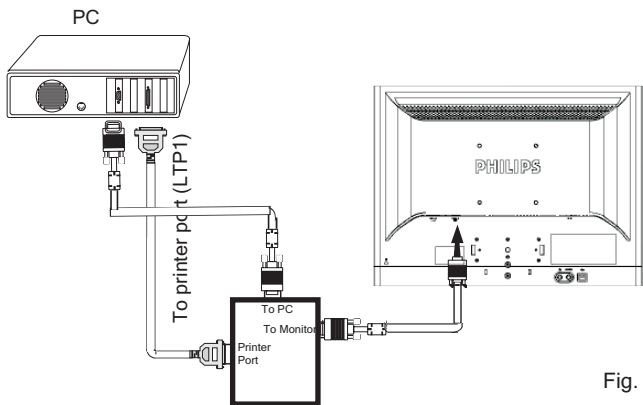

Fig. 11
Step 1: After initialize alignment box, connecting all cables and box as shown in Fig. 11
- Click icon as shown in Fig. 11 from the tool bar to bring up the Channels "Configuration Setup" windows as shown in Fig. 12.